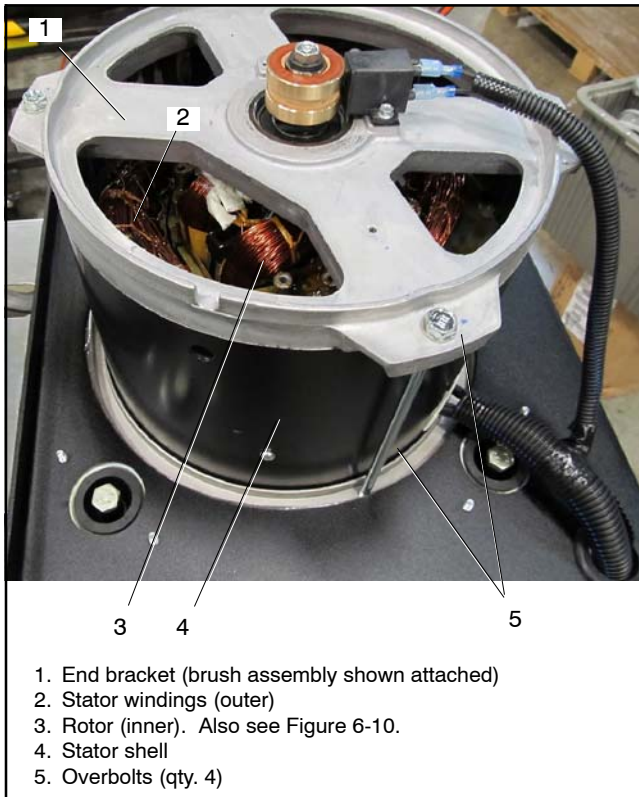

Figure 6-9 Alternator Assembly
24. Remove the alternator overbolts and centering washers. See Figure 6-9.
27. Carefully pull the stator from the rotor. See Figure 6-9.